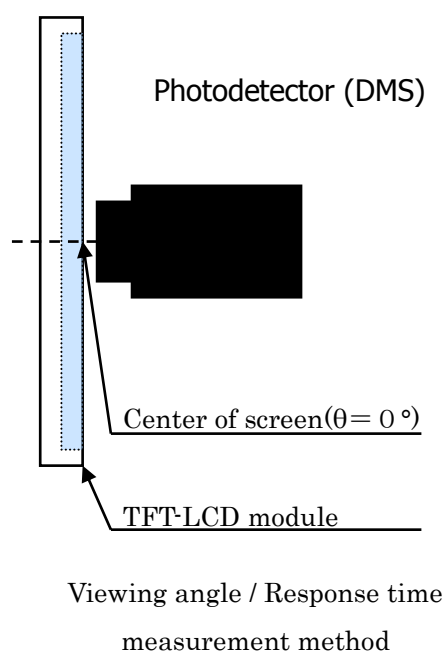
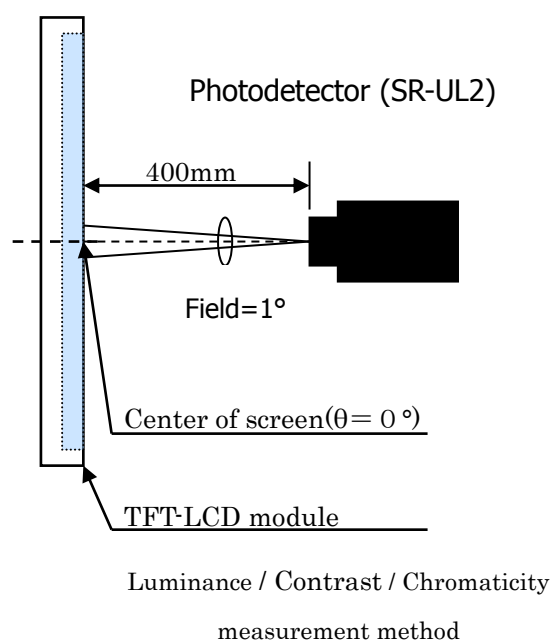

Fig9-1 Photodetector(DMS)
Fig9-2 Photodetector(SR-UL2)
* The optical characteristics measurements are operated under a stable luminescence (ILED = 60mA) and a dark condition. (Refer to Fig.9-1 and Fig.9-2)